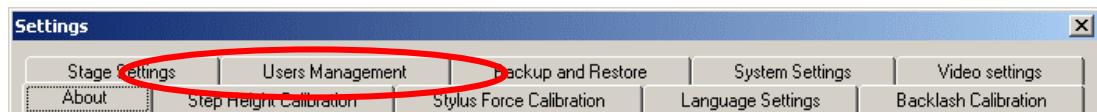

Figure 3.5 Users Management Tab
- In the dialog box (Figure 3.5), select the "Users Management" tab.